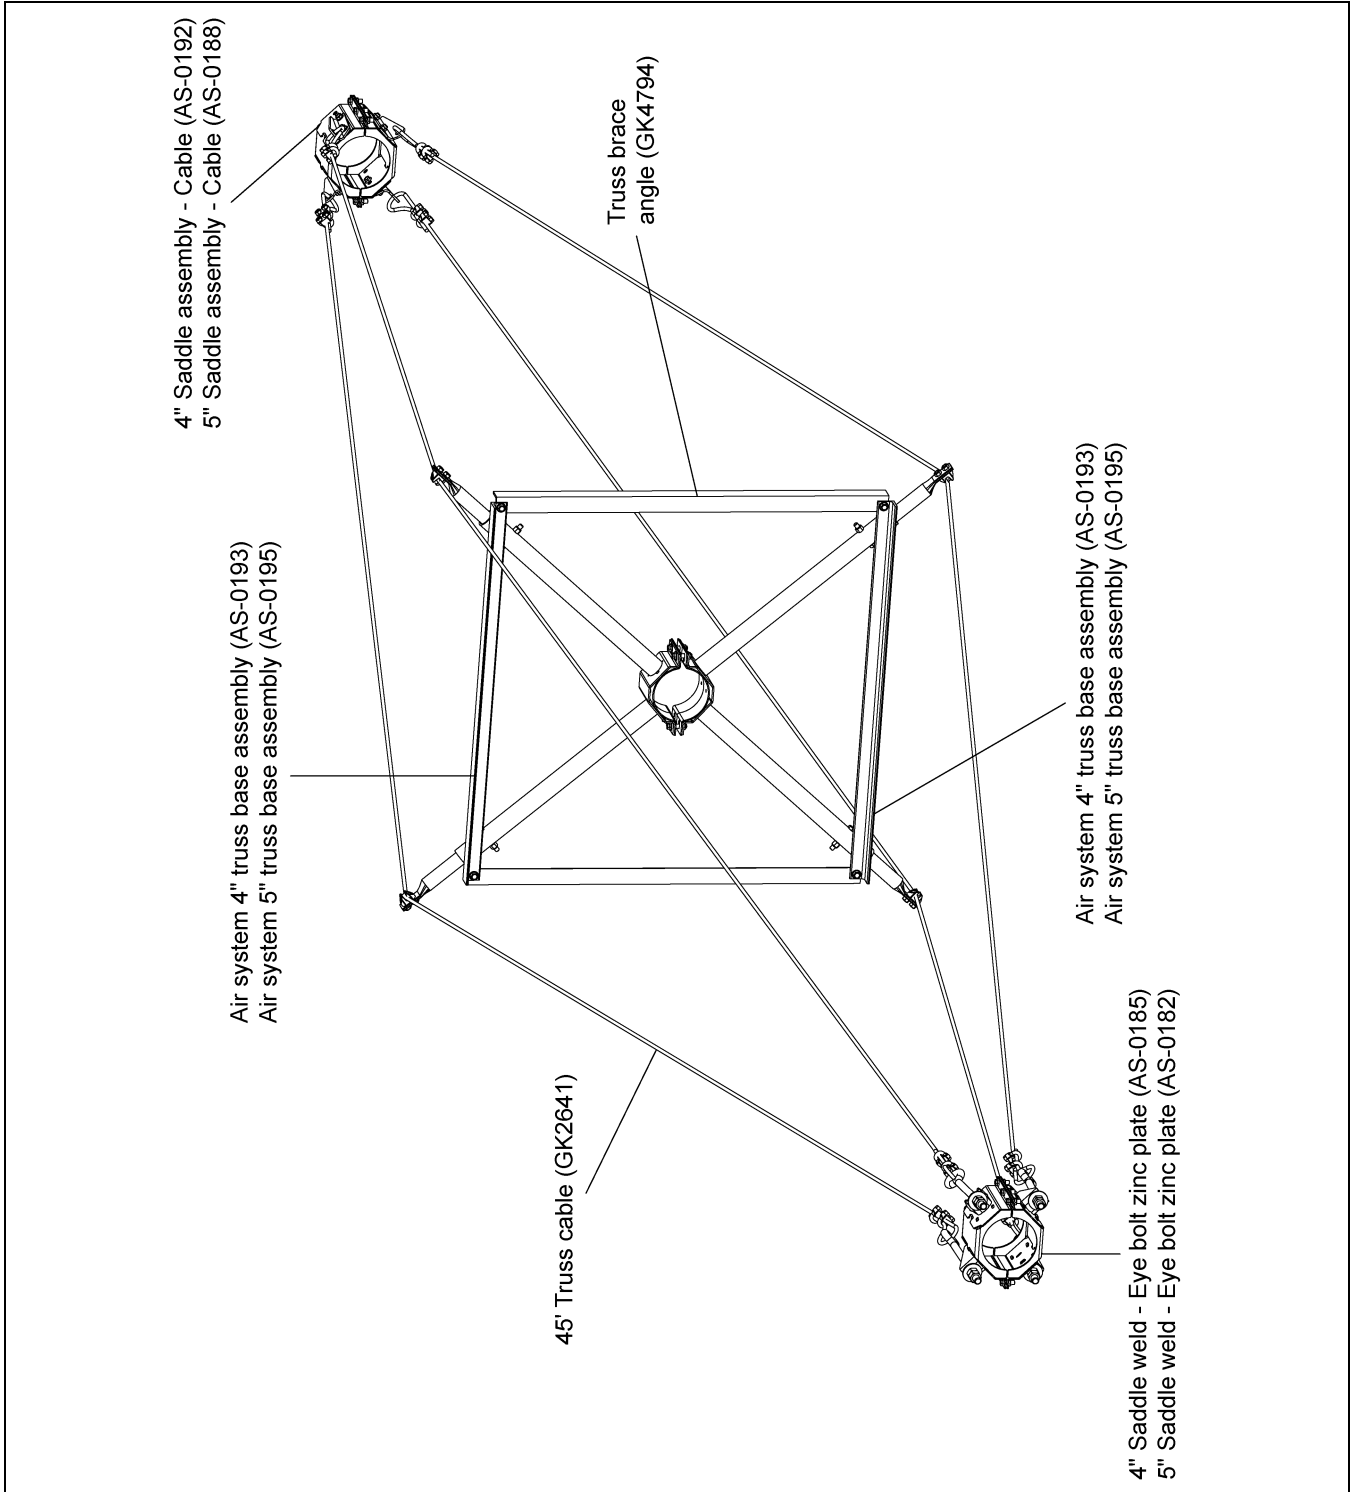
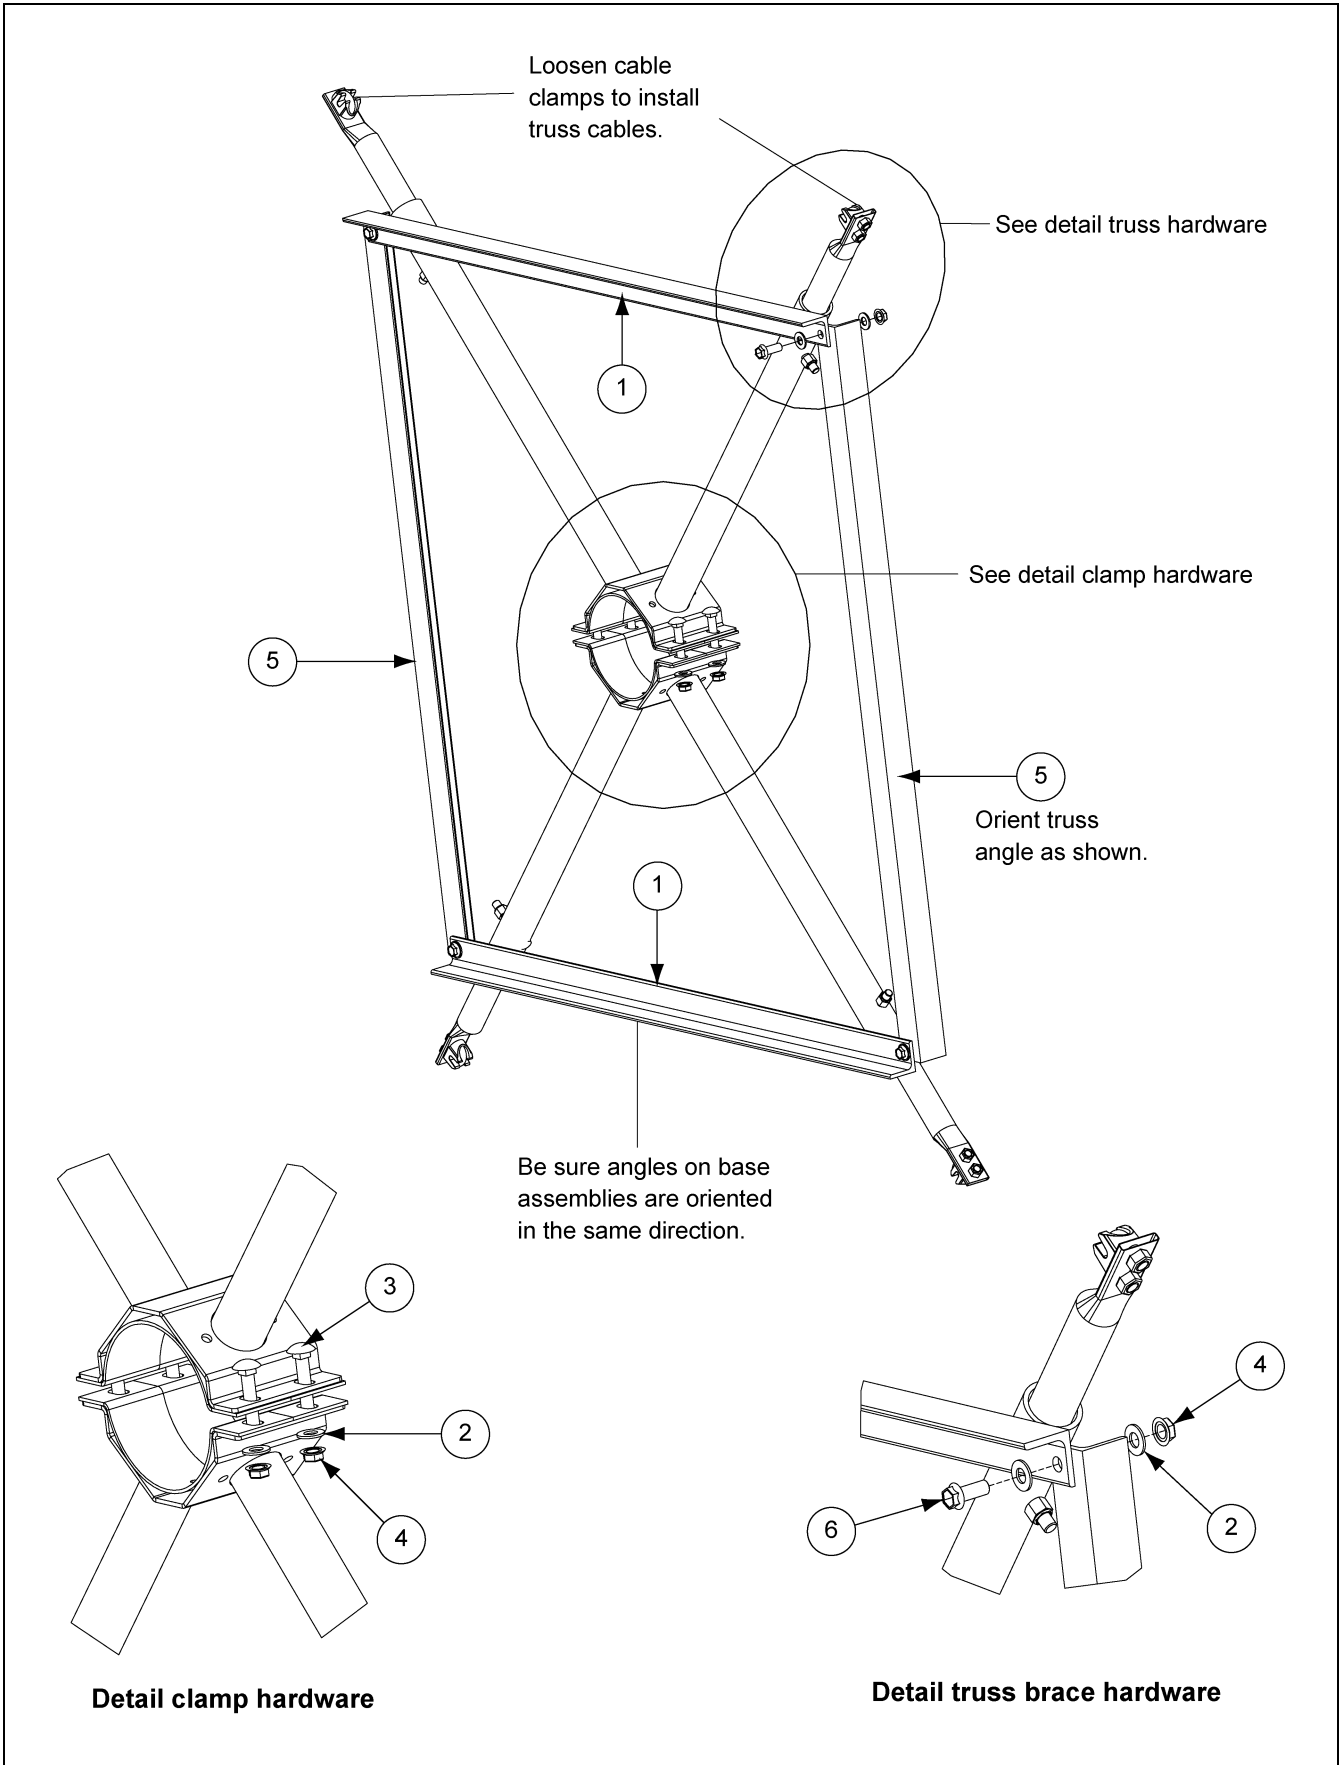
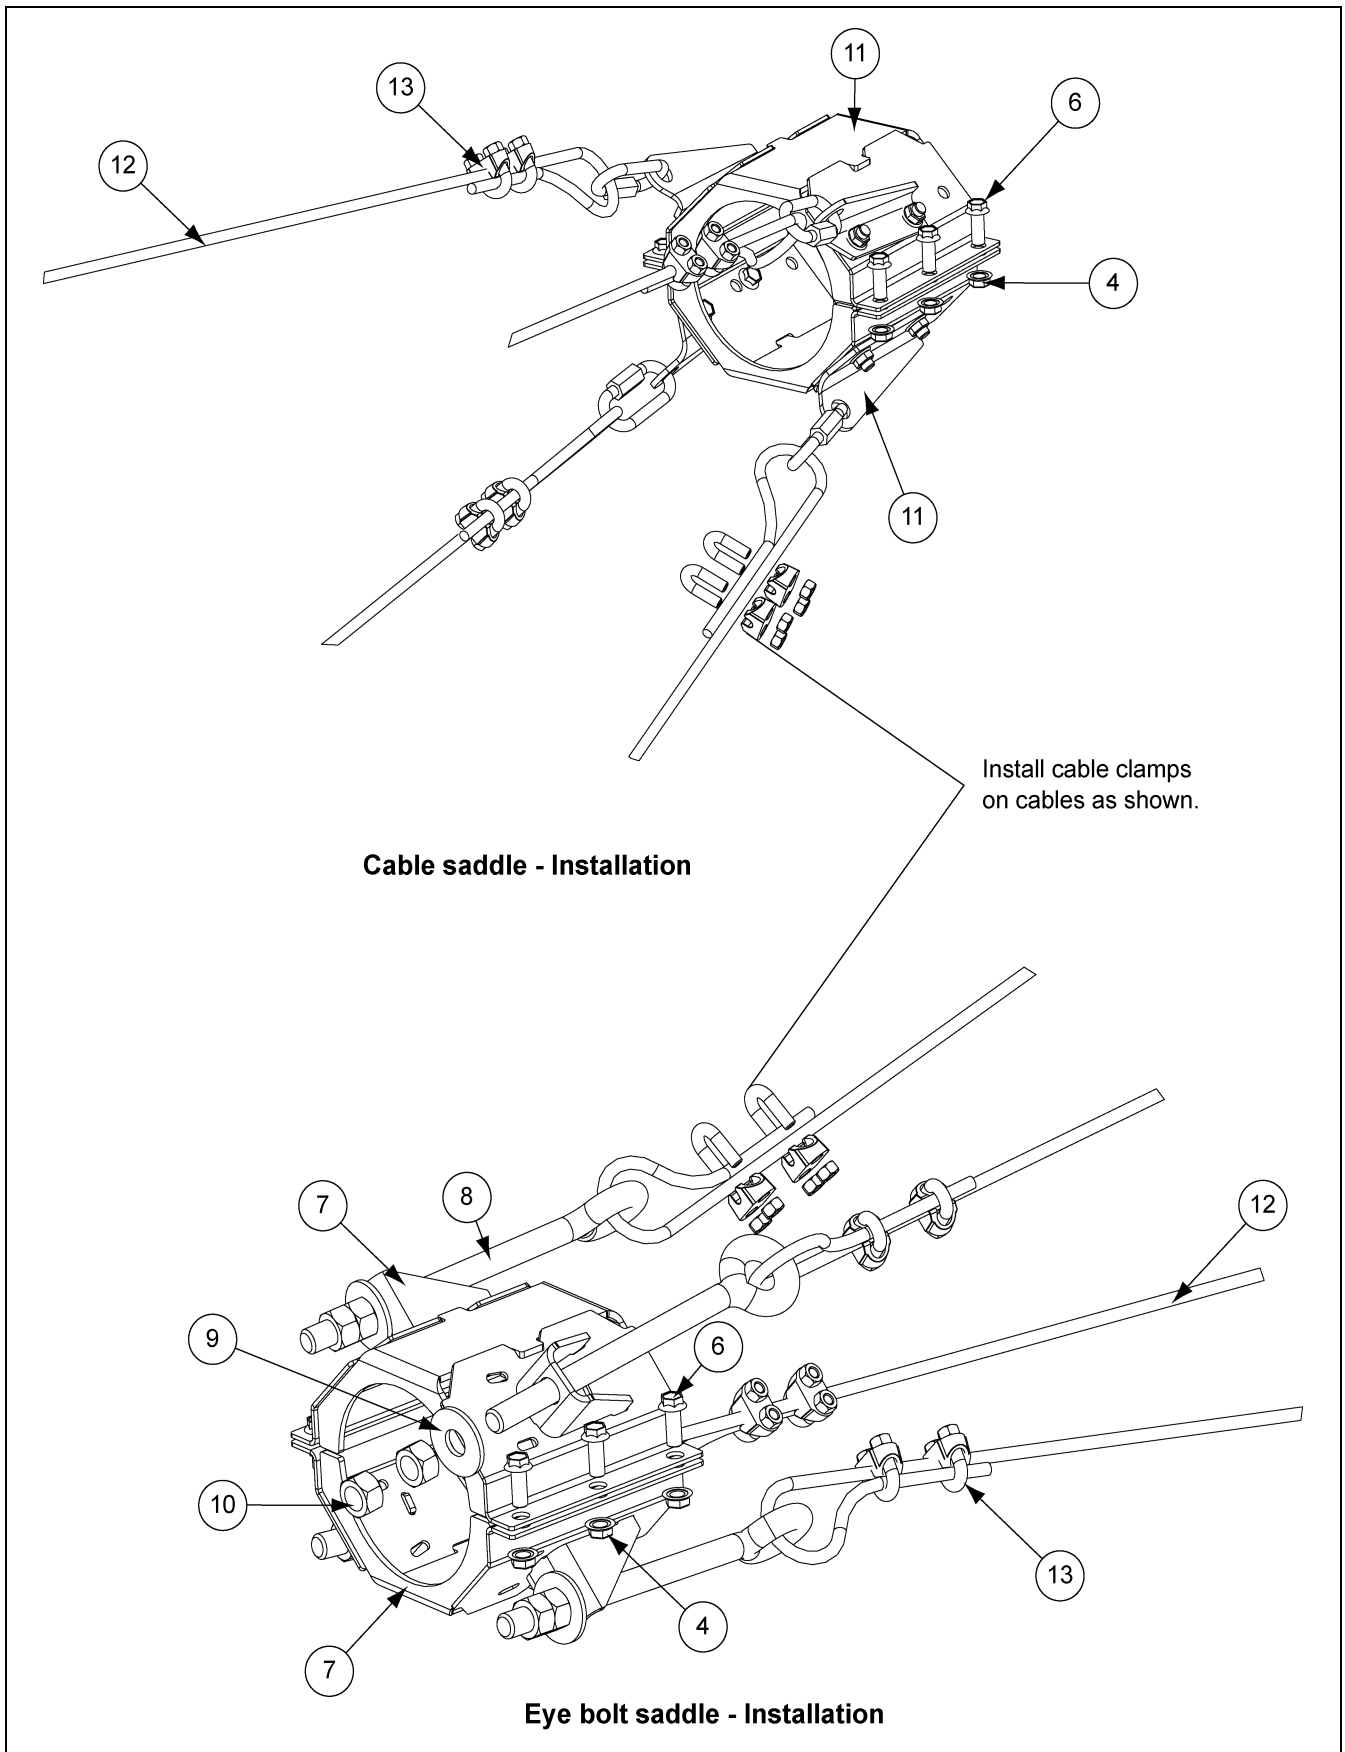

Figure 1
Figure 2 Installation of Tube Base Assemblies
Figure 3
- Step 1:** Locate the truss base assemblies (Ref #1) in the center of the tube that is to be trussed as shown in Figure 1 on Page 1. Be sure the angles on the base assemblies are oriented in the same direction as noted. (See Figure 2 on Page 3.) Fasten the truss bases to the tube with hardware Ref #2, #3 and #4. (See Figure 2 on Page 3.)
- Step 2:** Place truss braces (Ref #5) between the truss base assemblies and orient as shown. Attach using hardware Ref #2, #4 and #6. (See Figure 2 on Page 3.)
- Step 3:** Position the cable saddle assemblies (Ref #11) and the eye bolt saddle weldments (Ref #7) on opposite ends of the tube (See Figure 1 on Page 1) as close to the ends as possible but without interfering with the compression couplers. Be sure to orient the saddle assemblies as shown in Figure 3 on Page 4 and install with hardware Ref #4 and #6.
- Step 4:** Install the eye bolts (Ref #8) through the anchors on the eye bolt saddle weldments as shown in Figure 3 on Page 4. Make sure the eye is pointing toward the center of the tube. Fasten the eye bolts using hardware Ref #9 and #10. Leave hardware loose for later cable adjustment.
- Step 5:** Run cables through the chain connectors on the cable saddle assemblies and fasten with two (2) 5/16" cable clamps (Ref #13) as shown in Figure 3 on Page 4.
- Step 7:** Loop cables through eye bolts and fasten with two (2) 5/16" cable clamps (Ref #13) as shown in Figure 3 on Page 4.